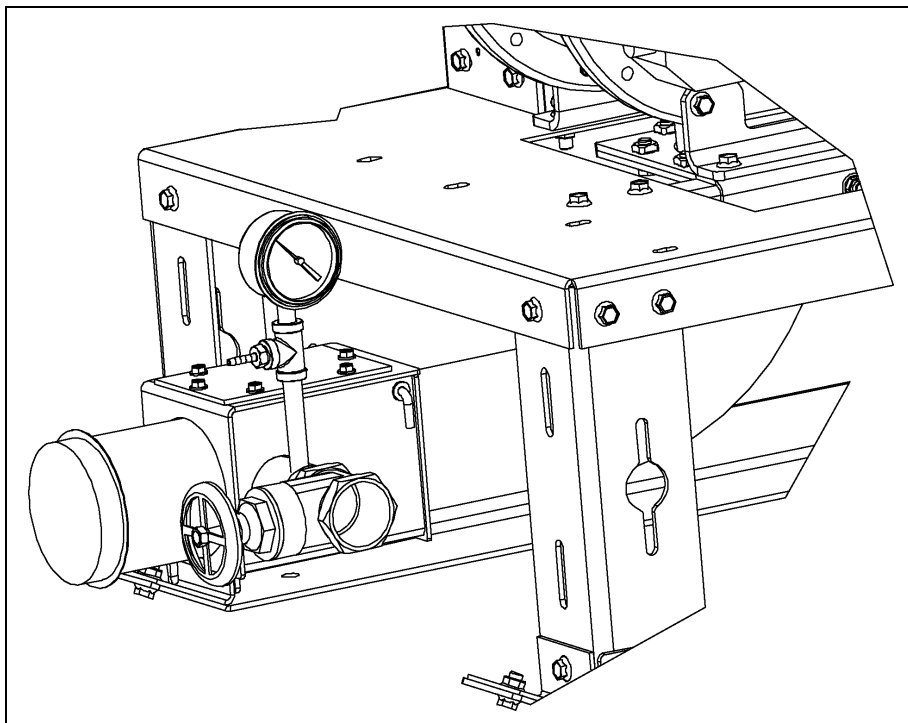

Figure 7N
12. Remove 1/4" pipe plug in gate valve pipe. Install gauge assembly and attach air hose. (See Figure 7N.)